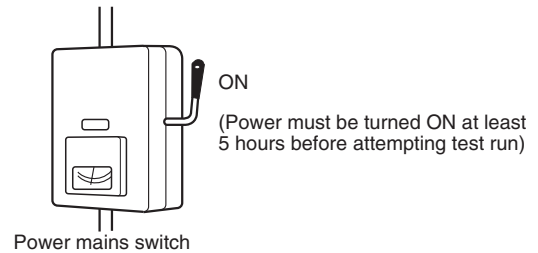

Fig. 7-1
- (1) The control wiring is correctly connected and all electrical connections are tight.
- (2) The transportation pads for the indoor fan have been removed. If not, remove them now.
- (3) The power has been supplied to the unit for at least 5 hours before starting the compressor. The bottom of the compressor should be warm to the touch and the crankcase heater around the feet of the compressor should be hot to the touch. (Fig. 7-1)